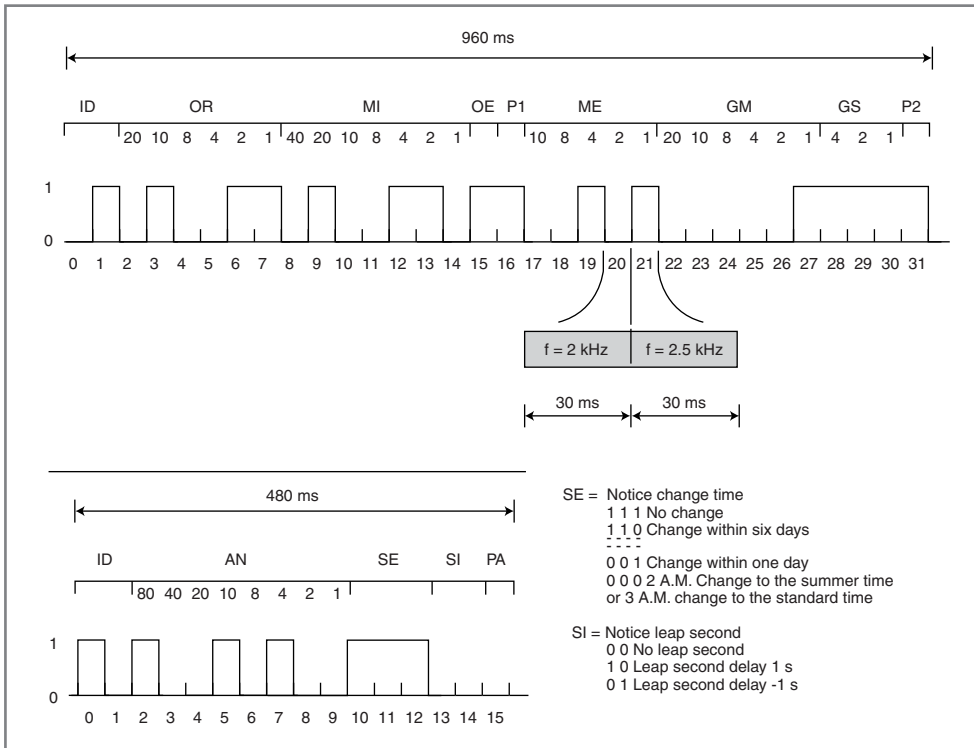

Figure 2—These are details about the two blocks of the IEN SRC-RAI signal.
As you can see in Figure 2, the bit values are placed according to the positions in the transmitted code. For the remaining technical information (SE – SI), refer to the tables in
Figure 2. A detailed analysis of the two aforementioned parameters shows that the first (SE) warns when time changes from standard to daylight-savings time and vice versa. The second (SI) sees to the warning for the so-called “leap second.” In brief, the leap second represents the power to add or take away 1 s to compensate for variations in the speed of the Earth’s rotation. If necessary, this compensa-